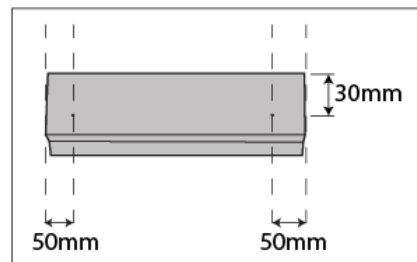

Figure 4
12. Position the 3 tailgate pieces on the tailgate **see Figure 4**. Drill through all the holes on the 3 pieces into the tailgate using a 4mm drill bit. Remove the red tape on the underside of the rails.
13. Press down firmly to ensure adhesion on each length. Rivet the 3 lengths of tailgate rail to the tailgate to complete the attachment.. **See Figure 4 & 5**